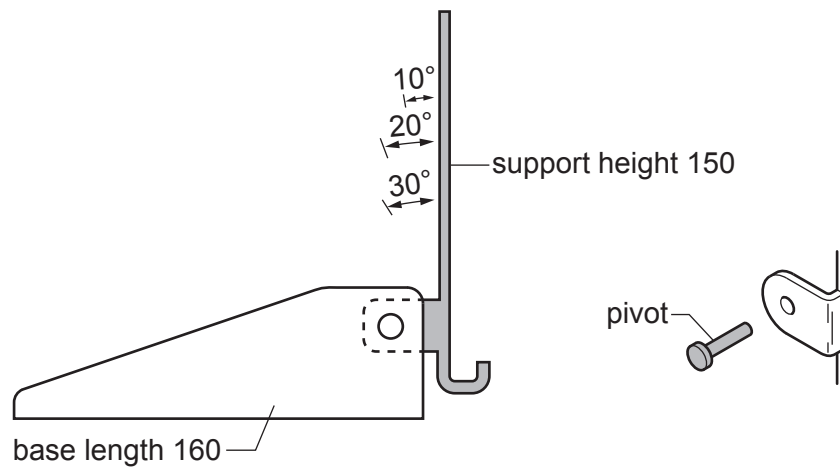

Fig. 12.4
- (e) Fig. 12.4 shows a side view of the stand and the angles to which the support must be adjusted.